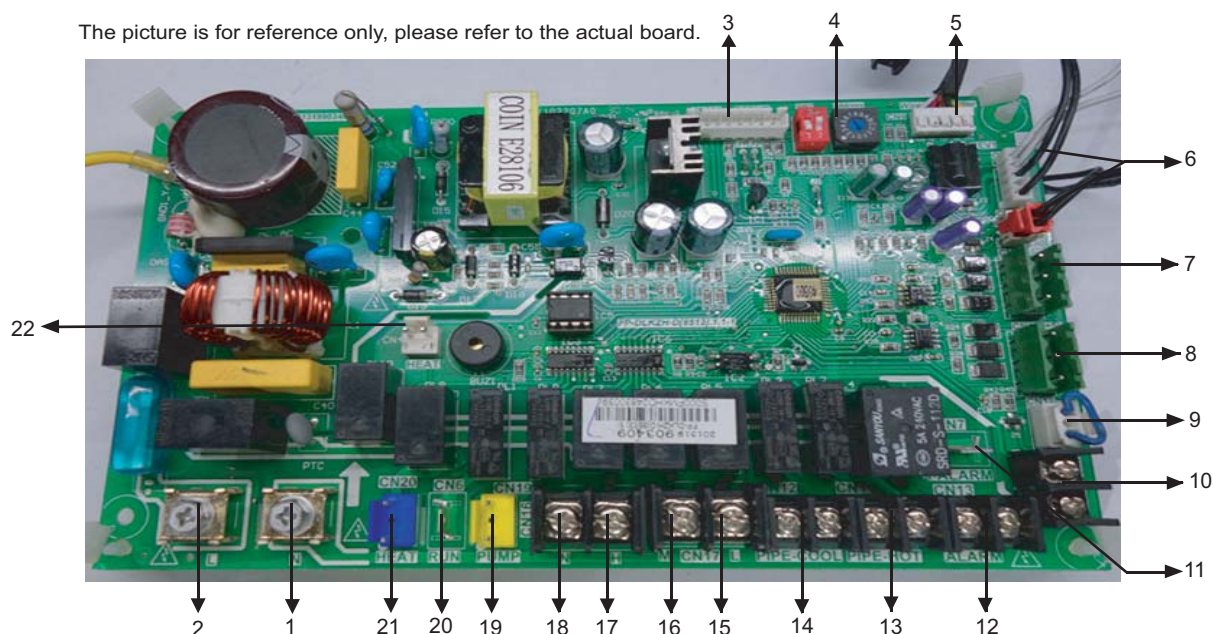

Fig 5.1
5.3.2 Indicating diagram of electric control of main control board (see Fig 5.1)